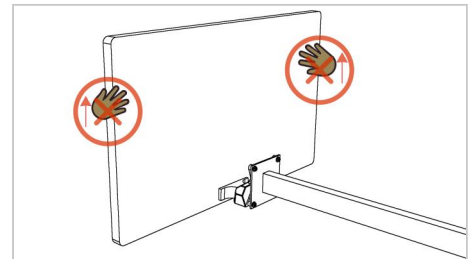

Figure 5
**Be aware that the VESA adapter can come off when you pull the monitor up. This is because the monitor is designed to remove the original Samsung monitor base (Figure 5).**